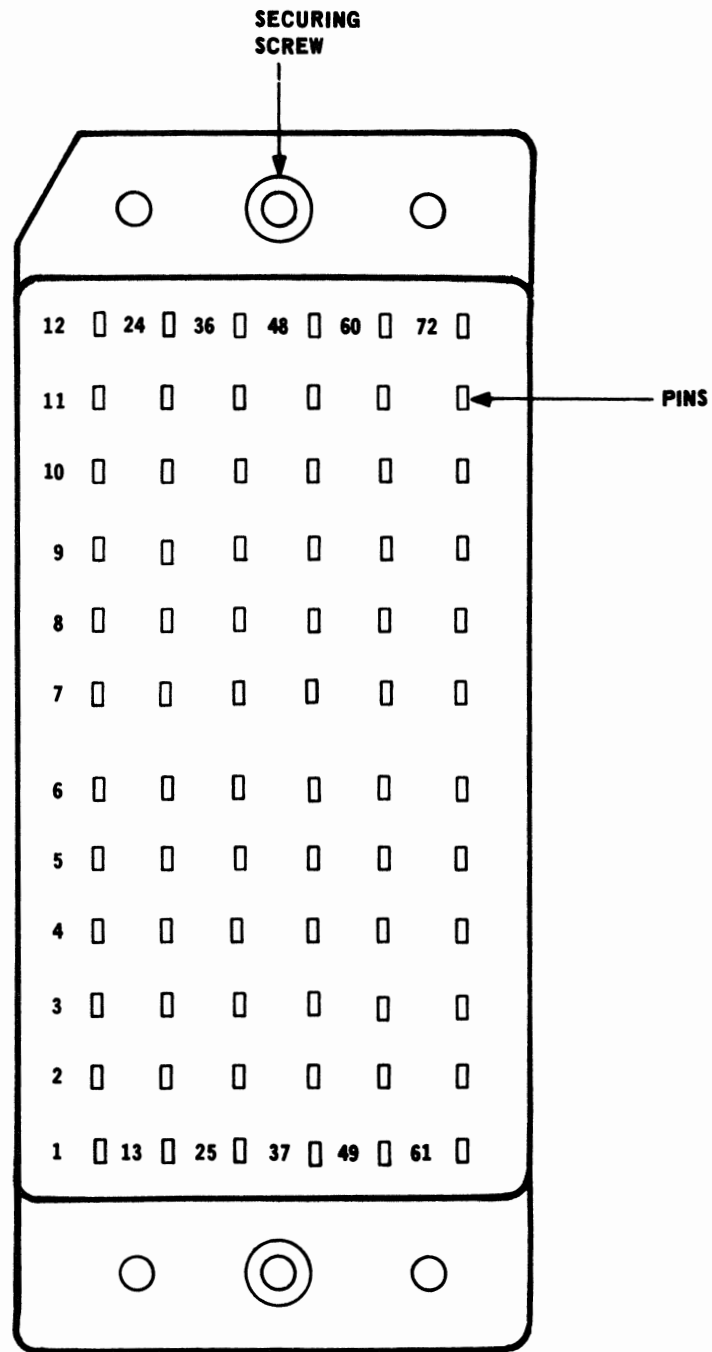

Fig. 14 – Wire Connection Side View of NS19163 Connector Plug
4.02 The back plane wiring of each shelf is brought out to a cable connector either on the shelf or on a flexible cable. The connectors are NS19163 plugs. The pin numbers are molded in the plastic on the wire connection side of the plug, and number from bottom to top and left to right, see Fig. 14. The matching jacks are also numbered on the wire connection side. The two rows of pins on each circuit pack connector, at the rear of the shelves, are numbered from the top of the connector. The left row are the A pins and the right row are the B pins.